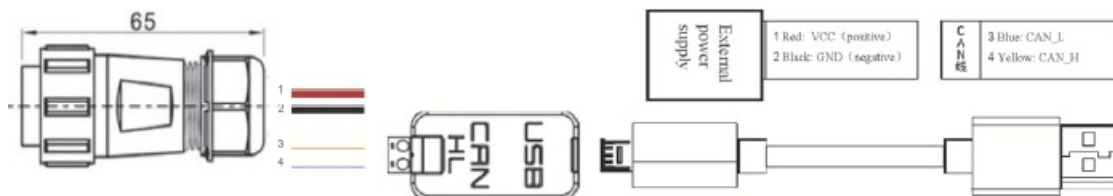

Figure 3.4 CAN line connection diagram
- Connect CAN_TO_USB to the USB port of the laptop. The connection diagram is shown in Figure 3.4.